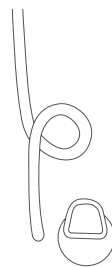

Fig 21 -
1. At the bitter end form a small loop leaving enough rope for the desired loop size (Fig 21).